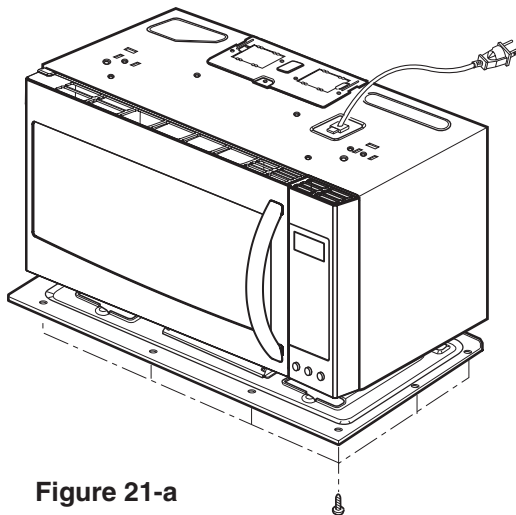

Figure 21-a
- (1) Remove the turntable.
- (2) Remove the turntable shaft **VERY CAREFULLY** with a slotted screwdriver. (Figure 21)